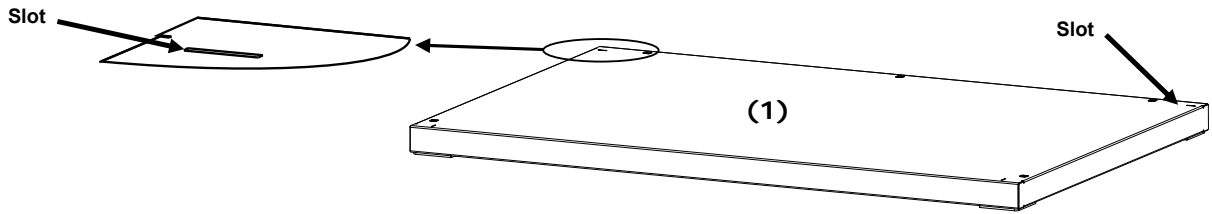

Figure 1. Bottom panel
1. Place the bottom panel (1) on a clean, smooth surface. Refer to figure 1.